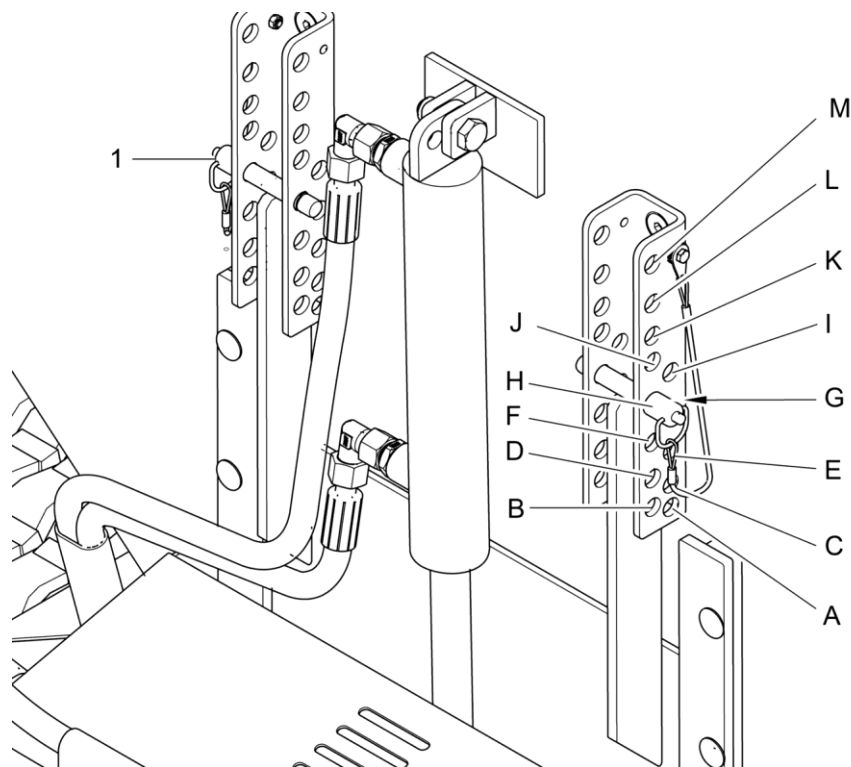

Fig. 41 Shutter device in the hopper
When the disc spreader is switched on, the hydraulic cylinder of the shutter device retracts and the shutter (Fig. 41/2) opens the spreader gate opening in the rear wall of the hopper. How far the shutter opens depends on the plug-in position of the two socket pins (Fig. 41/1).
2. Pull out both socket pins (Fig. 41/1).
4. Push both socket pins (Fig. 41/1) completely into the corresponding holes.